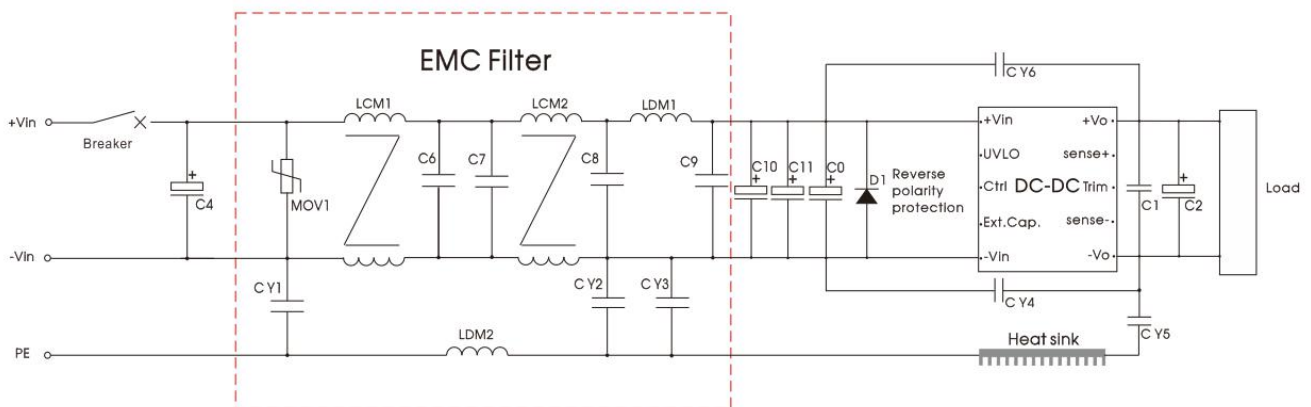

Fig.6
2. The EMC filter part is composed of modular circuits. Please refer to Figure 6 for recommended circuits and parameters. Self-built circuits can also be used;